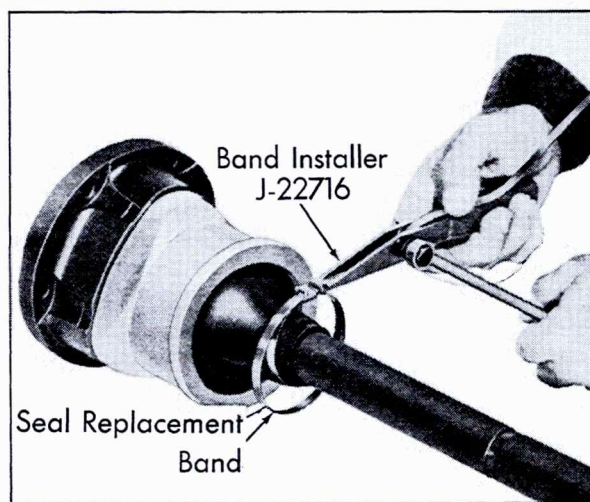

Fig. 3-65 Positioning Seal Clamp Band On Seal
NOTE: When installing outer joint seal on axle shaft, position small end of seal in outer groove in axle shaft, or groove nearest end of axle shaft, Fig. 3-65 and proceed as follows:
10. Install large seal clamp band over seal and secure as shown in Fig. 3-65.
strap passing through its own retainer each time a loop is completed, Fig. 3-65.